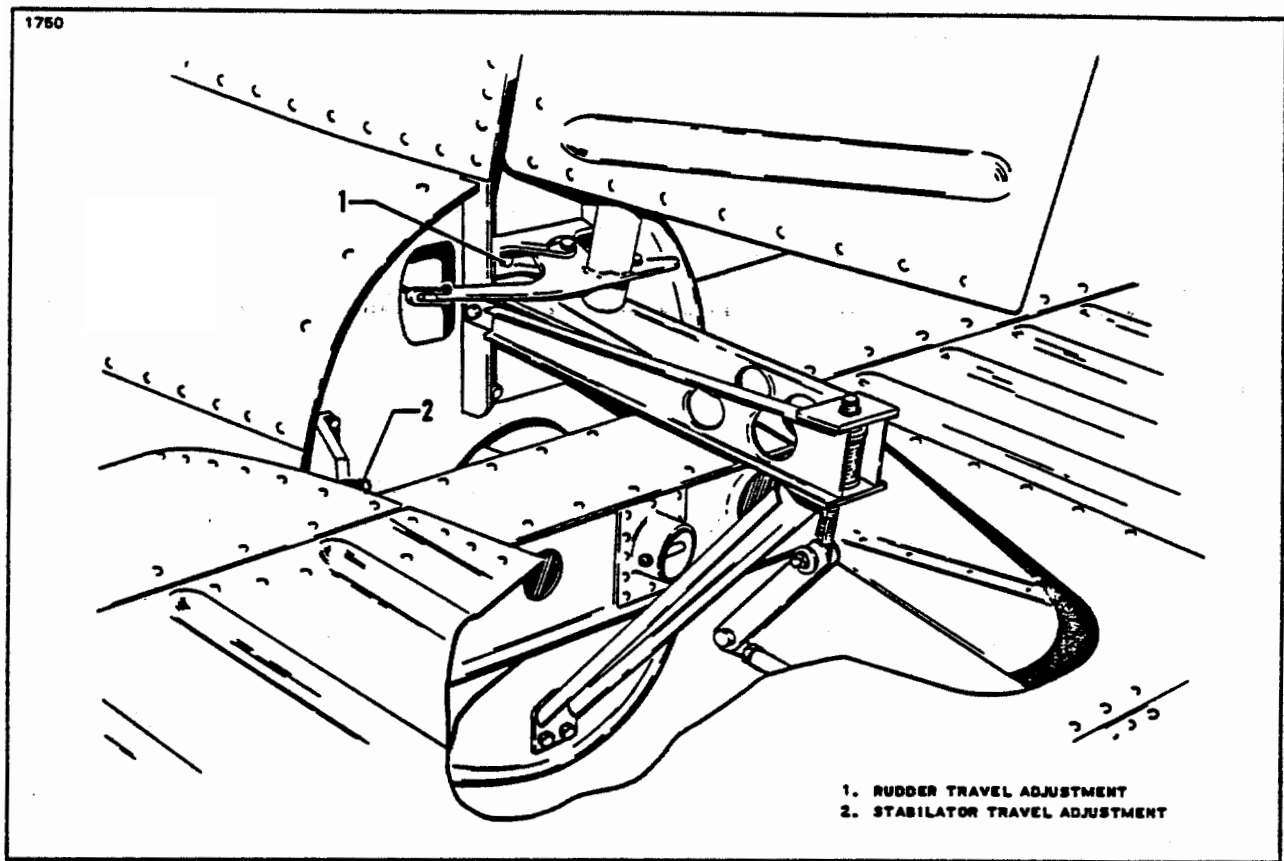

Figure 5-12. Rudder and Stabilator Travel Adjustments
3. Swing the rudder in the other direction and check the travel as directed in step 2. Should the rudder travel be incorrect, showing a gap between the tool and any part of the control surface, the tail cone fairing should be removed and the stop reset to obtain the correct rudder travel. (Refer to Figure 5-12.)